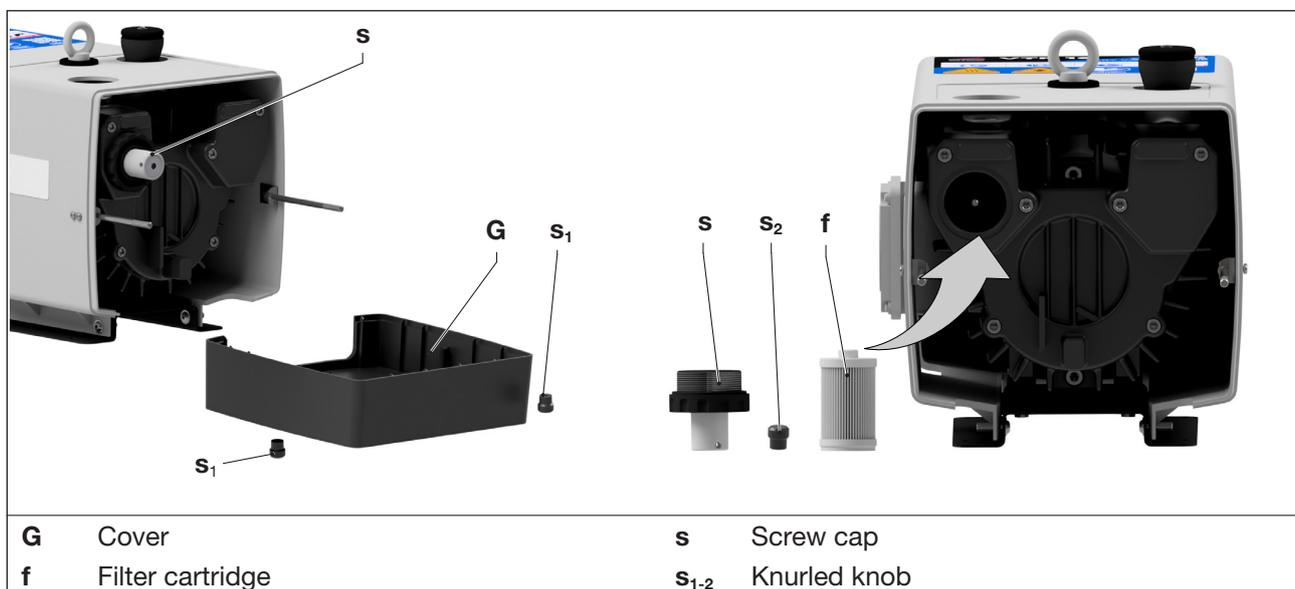

Fig. 4 Replacement of air filter
Clean or replace the filter cartridge (Fig. 4/f) every month, or more often depending on pollution, by blowing off. In spite of cleaning the filter its separation efficiency will continue to deteriorate. Therefore the filter should be replaced every six months.
- b) Remove the cover (Fig. 4/G) after releasing of the knurled knobs (Fig. 4/s1).
- c) Release and remove the screw cap (Fig. 4/s) and knurled knob (Fig. 4/s2).
- d) Remove and clean or replace the filter cartridge (Fig. 4/f).
- e) Insert the filter cartridge (Fig. 4/f) in the inlet connection and fasten it with the knurled knob (Fig. 4/s2) and the screw cap (Fig. 4/s). Tighten the knurled knob and the screw cap by hand.
- f) Mount the cover (Fig. 4/G) with the knurled knobs (Fig. 4/s1). Tighten the knurled knobs by hand.
- Remove the cover (Fig. 4/G) after releasing of the knurled knobs (Fig. 4/s1).
- j) Mount the cover (Fig. 4/G) with the knurled knobs (Fig. 4/s1). Tighten the knurled knobs by hand.